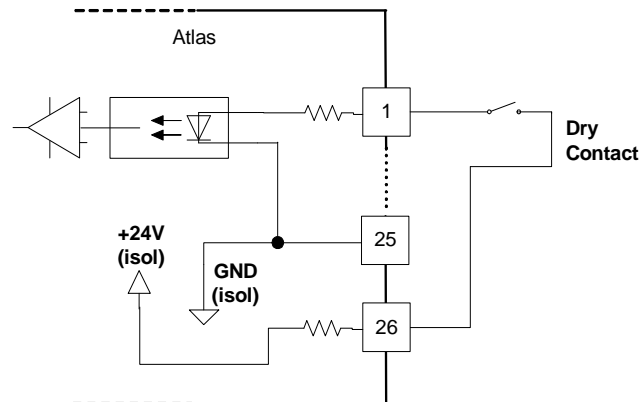

Figure 4-15. Wiring Example—Discrete Input Interface to the SmartCore CPU A5200 Board
- Refer to Figure 4-15 for discrete input wiring.